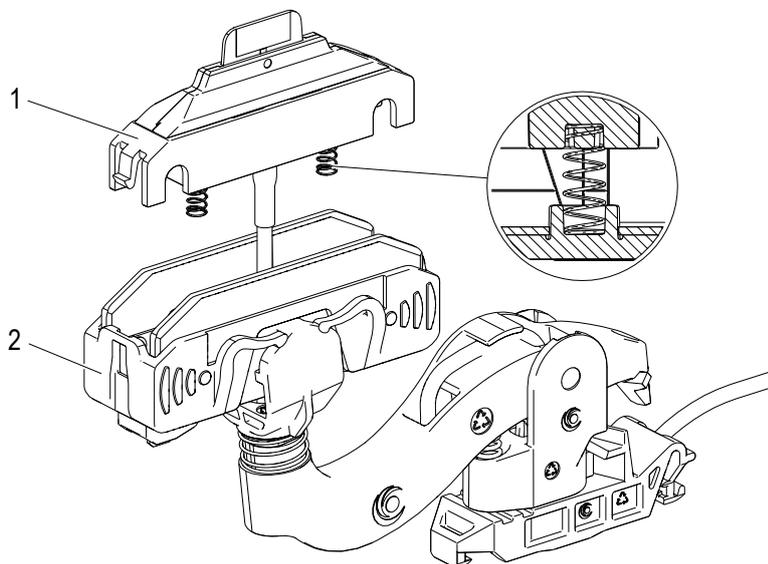

Fig. 168: Collector housing (1) is mounted on balance (2)
→ Mount the collector housing (1) and balance (2). Carefully tighten the data cable (see Fig. 168).